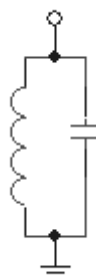

Fig. 2: LC Circuit
Design the LC circuit in **Fig. 2**. The inductor value should be between 50uH and 500uH. The Resonant frequency should be between 1MHz and 3MHz. Use the following equation for the calculation.
1. Build the LC circuit in **Fig. 2**. Use the LC values found in the Pre-Lab. Place it by the other oscilloscope.